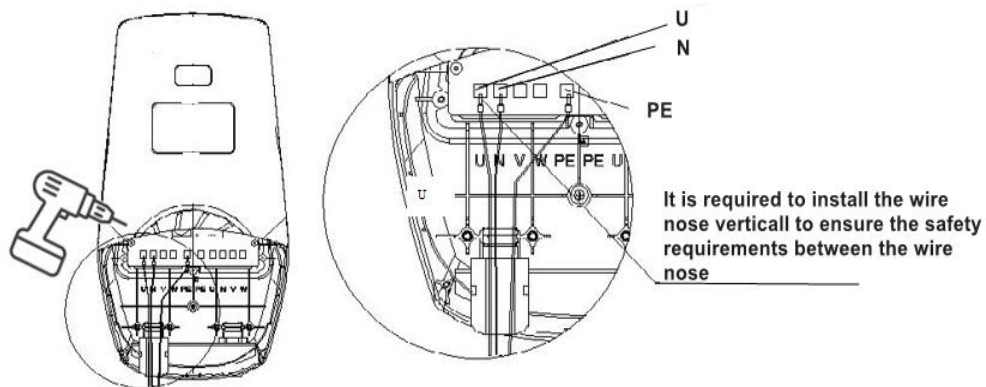

Figure 7- 7kW Wiring diagram
1. Pass the cable through the cable entry hole at the bottom of the charger. Use an electric screwdriver to connect the brown cable to the U terminal of the power board of the charger. Connect the blue neutral cable is to the N terminal, connect the yellow-green ground cable to the PE terminal on the left, as shown in the Figure 7 below. (The recommended torque is 12kgf.cm)